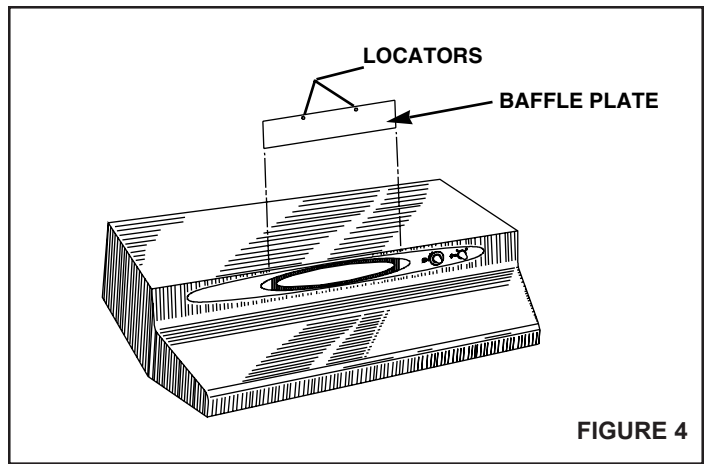

FIGURE 4
**If the range hood is to be installed as a ducted unit,** a baffle plate is provided to close off the non-ducted vent. Install baffle plate (**Refer to FIGURE 4**) by sliding into place behind grille. Use locator bumps to orient in grille.